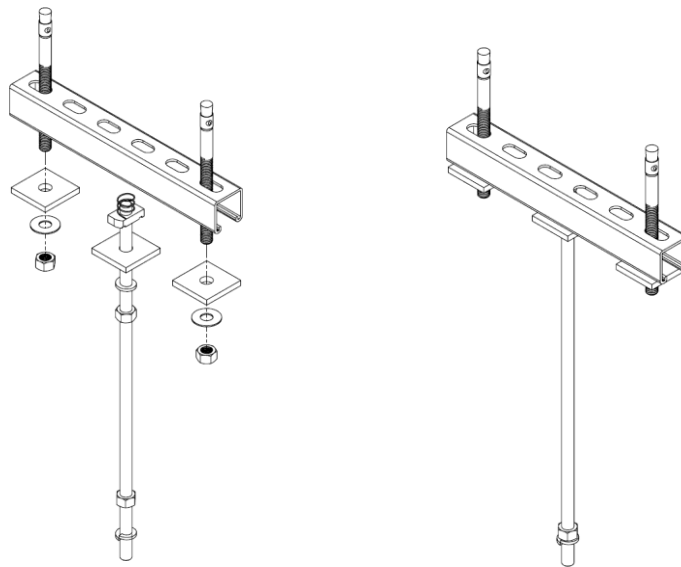

Figure 258: **Concrete Installation Assembly (Detail)**
14. Repeat steps 3–13 for each attachment point. Figure 258 diagrams the assembly.